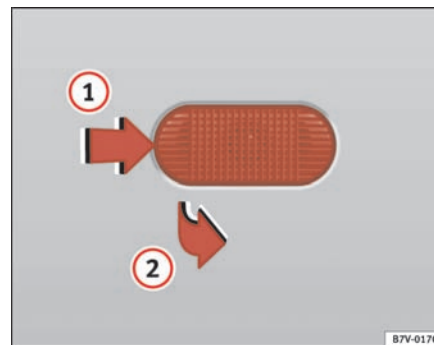

Fig. 164 Side indicator
- Slide the turn signal forwards ① ⇒ fig. 164 and remove ②.